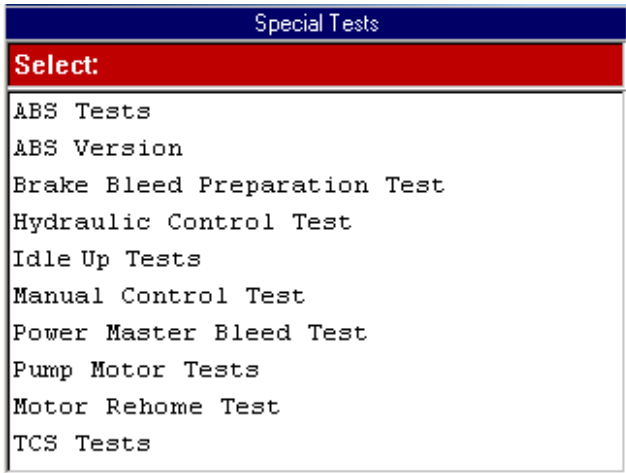

Figure 10.2: Special Tests Menu Screen
- 2 From the Diagnostic Menu screen, select **Special Tests**. This displays the Special Tests menu screen (Figure 10.2 on page 62).